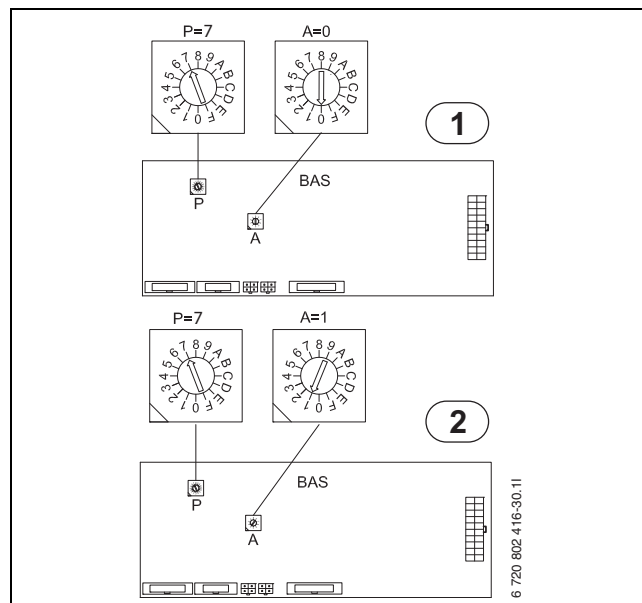

Fig. 41 Addressing heat pumps 1 and 2.
6. Re-address BAS (heat pump 2) from A=0 to A=1 (→ Figure 41). Set termination switch to Term mode on PEL (heat pump 2).